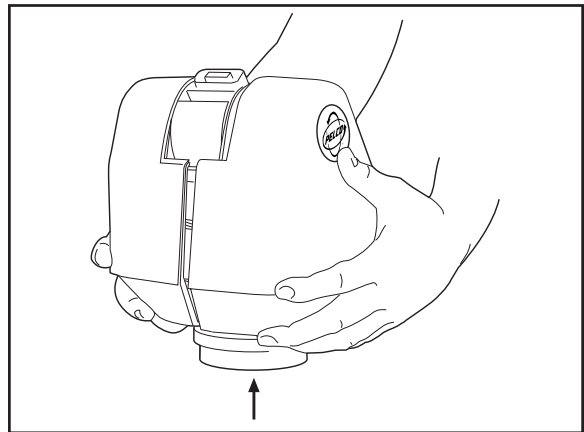

Figure 2. Releasing the Covers
- b. Refer to Figure 2 and place your hands under the cover halves. Exert a strong, upward force to release the covers from their internal latching devices.